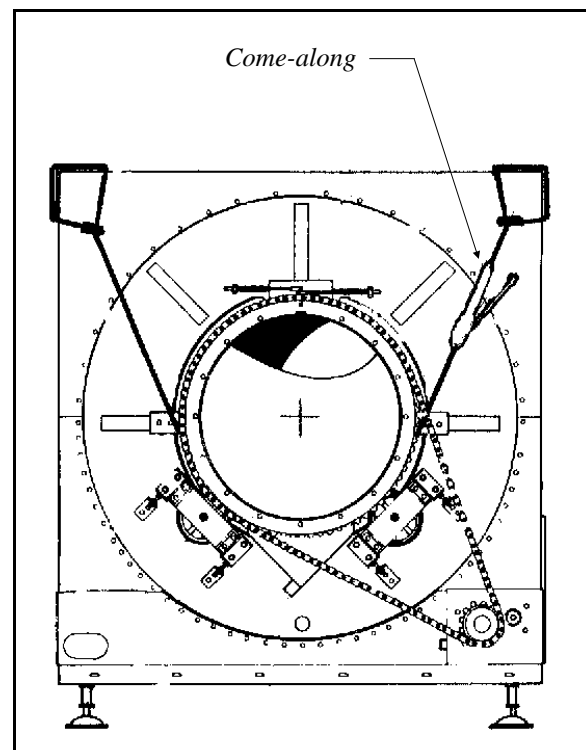

Figure 1 (MSSMD407AE)
1. Using a "come-along" and cable wrapped under the cylinder and secured to the upper longitudinal braces as shown in Figure 1 at right, raise the basket just until it is suspended above the rollers. The rollers should then turn freely.